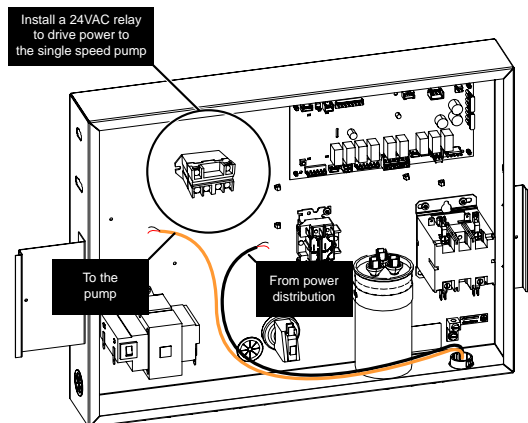

Figure 134. Install Relay in Control Box
3. Install a field-supplied relay inside the control box. See Figure 134. The relay shall have a coil for 24VAC, and contact terminals rated to the current specifications of the pump. The next components are recommended for this application